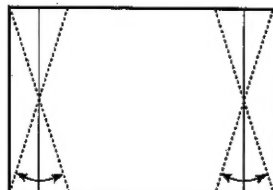

Fig. 6
- Adjust the E-W TRAPEZOID to obtain condition as in fig. 6.